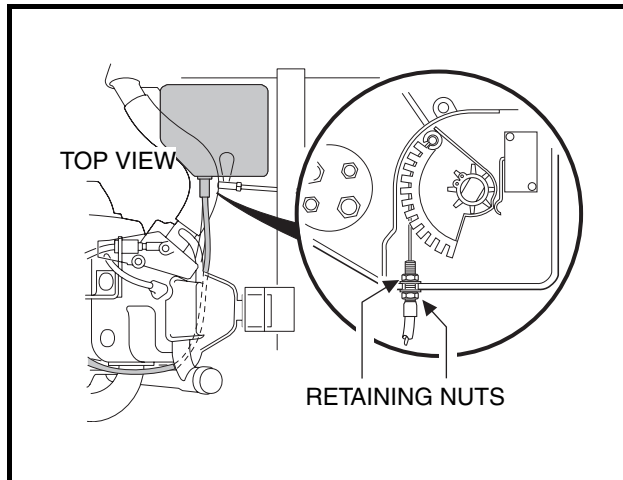

Figure 18-13 Throttle Cable
- 4.5. Remove the cover from the electrical component box. Then loosen the hardware securing the accelerator cable to the box. Disconnect the cable from the actuator cam and remove it from the box (**Figure 18-13, Page 18-8**).